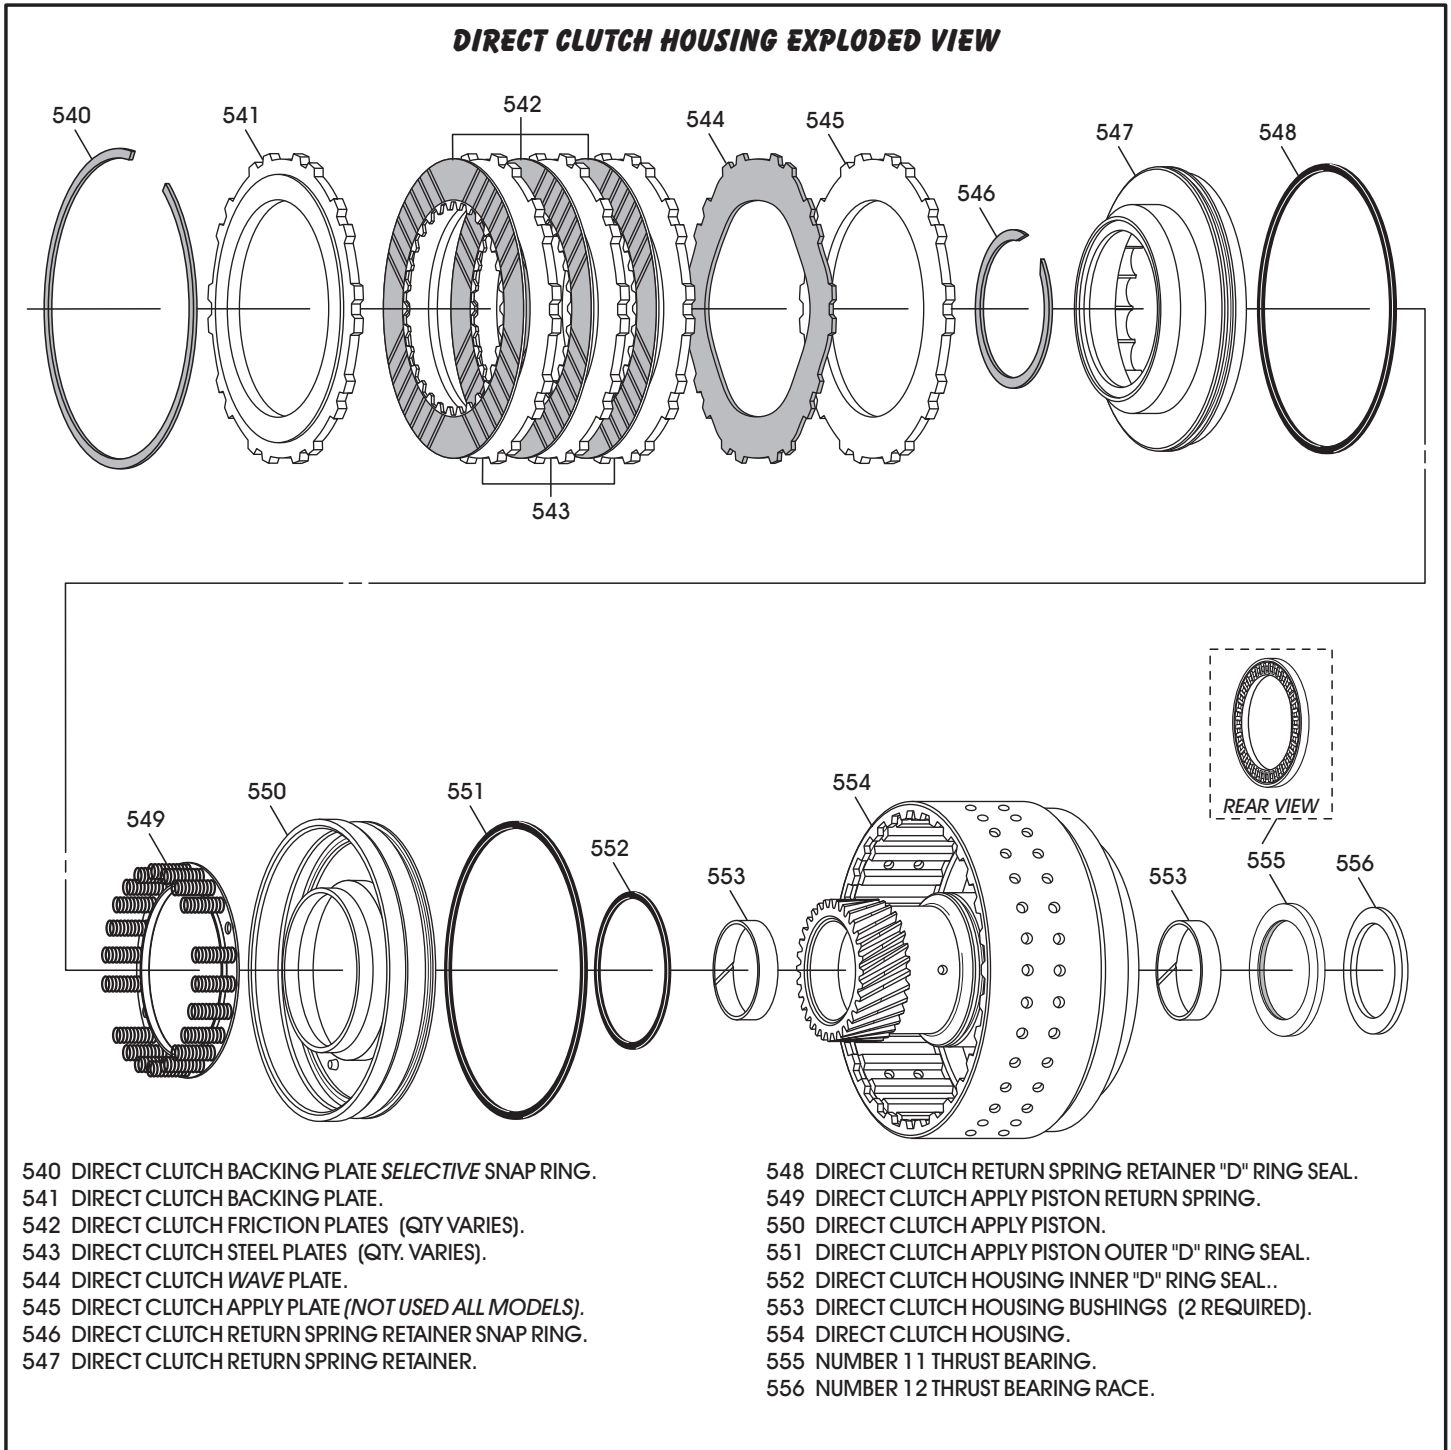

Figure 183
1. Disassemble the direct clutch housing using Figure 183 as a guide.